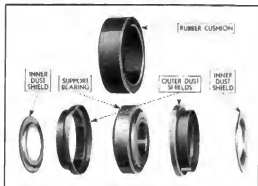

Fig. 35—Layout of Intermediate Support Bearing Parts
- Tap the dust shields off the outer race of the bearing. Fig. 35 shows a layout of the parts making up the intermediate support bearing assembly.
- Place one of the inner dust shields on the shaft with the offset in the shield away from the bearing as shown in Fig. 35. Drive the bearing on the shaft using the universal joint yoke as a driver. Then install the other inner dust shield on the shaft with the offset away from the bearing.
- Install the rubber cushion over the bearing as shown in Fig. 35.